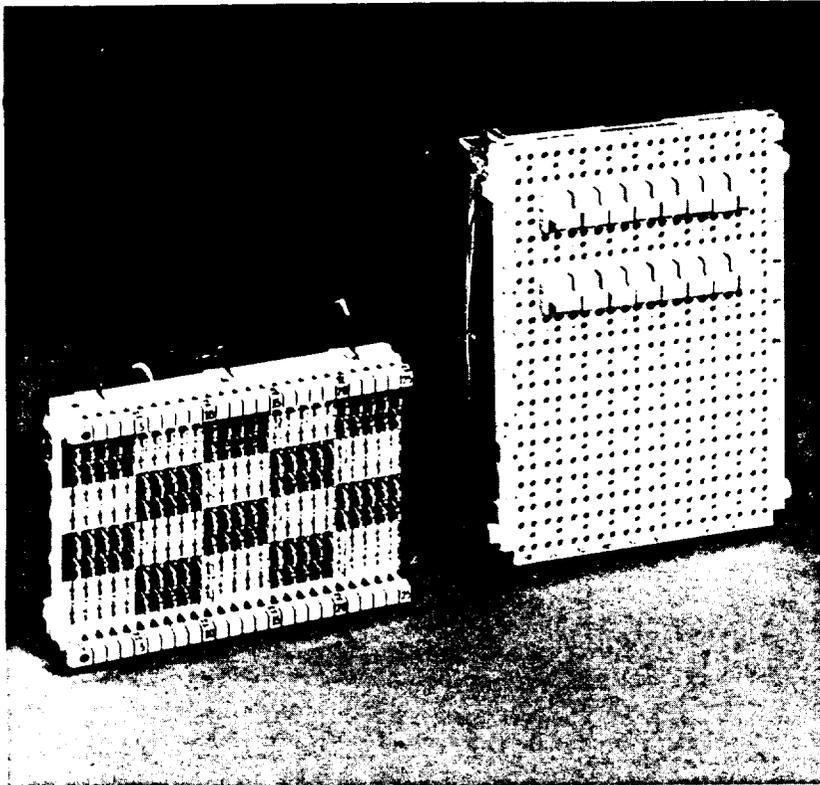

Figure 14. 407-Type Connector — Front View
5.07 The 407-type non-protected connector (Figure 14) is used on **COSMIC** IIA and **COSMIC** Mini DF Systems. Like the 307-type connector, it mounts in the cross-connect/protection bays of these frames. The connector is equipped with a 100-pair, 112-type connecting block, and four 710-type splicing connectors. It does not have a ground system. Continuity between cabling and the cross-connect block can be made using either 5-type continuity plugs or 4C12C continuity only protectors that provide test access.